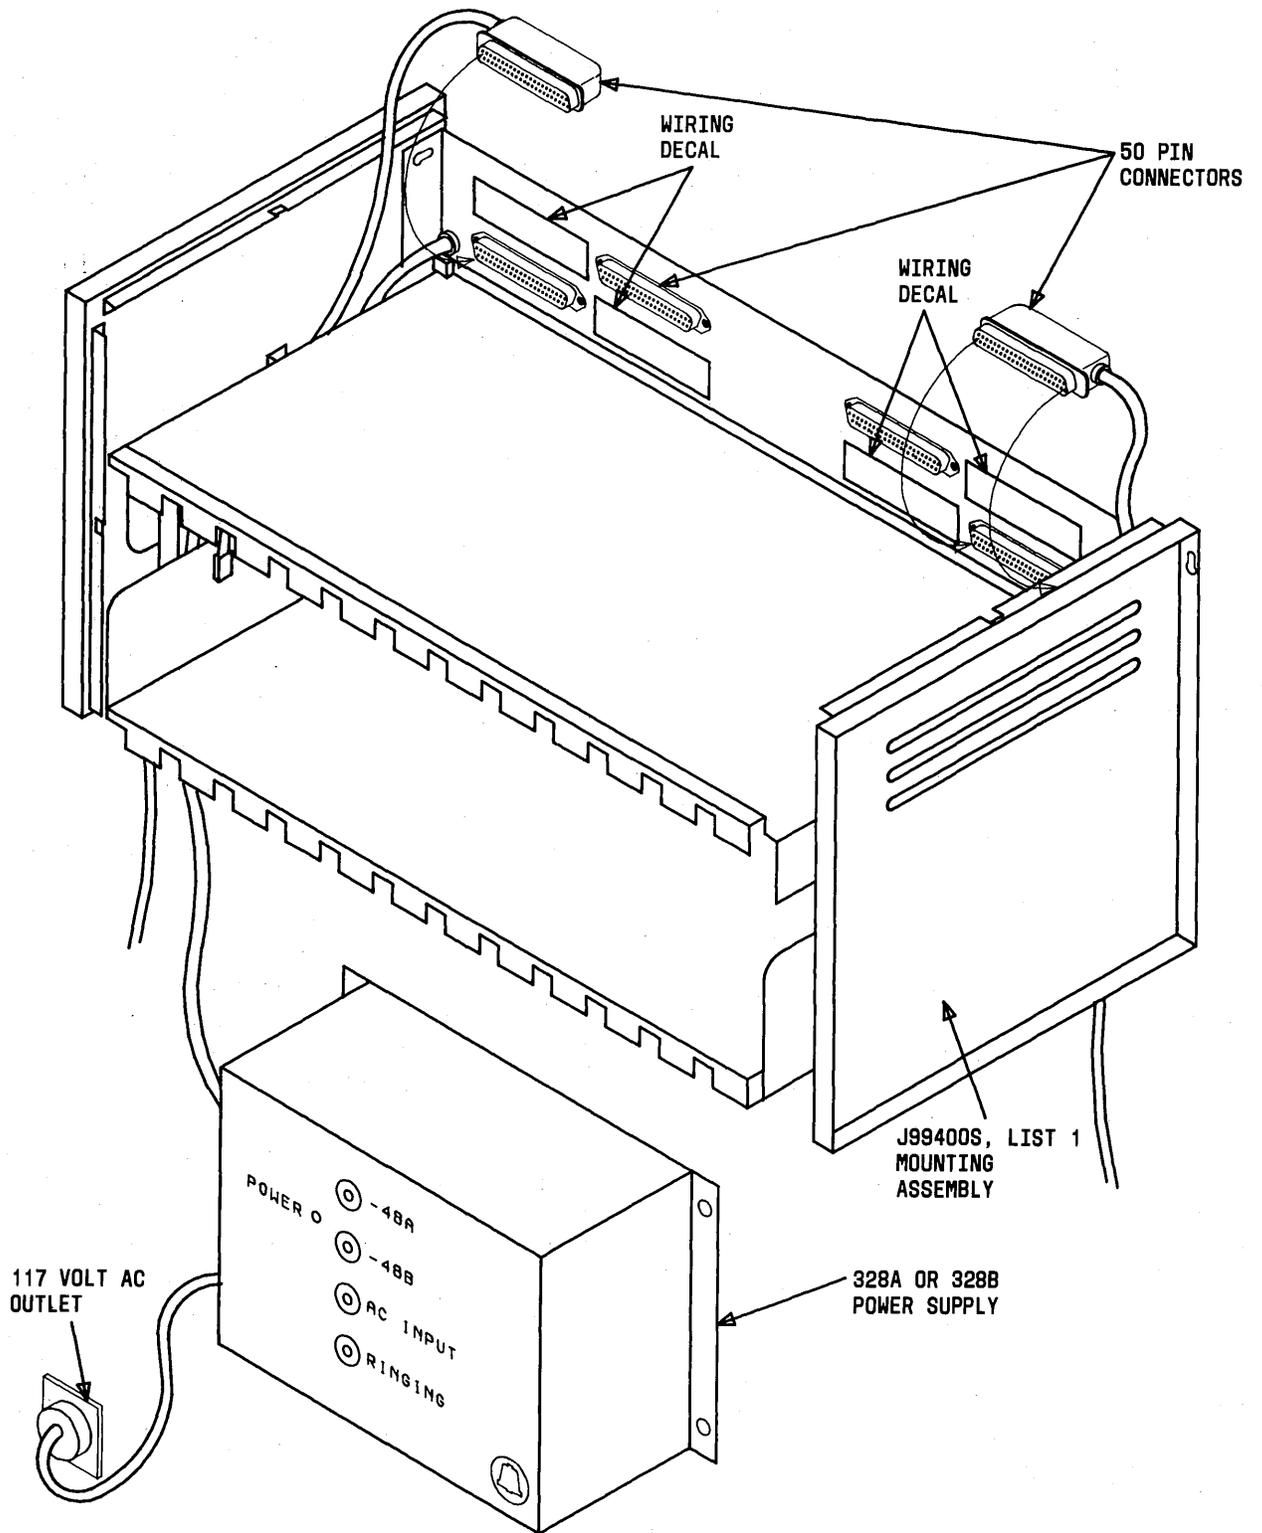

Fig. 3—J99400S Housing Assembly—Single-Module Arrangement for 12 MFT Circuits
**3.01** The J99400S assembly consists of a single-module shelf arrangement which will accommodate up to 12 MFT circuits (transmission units, loop signaling extenders, combined function units, maintenance termination units, or impedance compensators). The J99400S assembly shown in Fig. 3 is available in combinations of the following list numbers:
**3.05** The 328A power supply will accept commercial 117 volt ac input and will supply two -48 volt dc outputs (-48A and -48B). The 328A power supply has a 1.75 ampere circuit breaker on the 117 volt ac input and 1.75 ampere circuit breakers on each of the -48 volt dc outputs. The location of these circuit breakers and the POWER ON indicator is shown in Fig. 3. If a circuit breaker should trip, the center button will extend. The circuit breakers are reset by pushing this center button. If 20-Hz ringing is required, use of the 328B power supply/frequency
**3.07** The 328B power supply/frequency generator will accept commercial 117 volt ac input and will supply two -48 volt dc outputs (-48A and -48B) and a 20-Hz ringing signal. The 328B power supply/frequency generator has a 1.75 ampere circuit breaker on the 117 volt ac input, a 1.75 ampere circuit breaker on each of the -48 volts dc outputs, and a 1.0 ampere circuit breaker on the 20-Hz ringing output. The location of these circuit breakers and the POWER ON indicator is shown in Fig. 3. If a circuit breaker should trip, the center button will extend. The circuit breakers are reset by pushing this center button.
**4.06** Cabling to the J99400S housing is routed up through the bottom of the housing to the 50-pin ribbon type connectors at the upper rear of the housing as shown in Fig. 3. Typically, cabling from the network interface is routed to the A-side connectors (J13 and J14) and connected according to circuit function as indicated on the decal adjacent to the respective connector. The cabling to the central office is typically connected to the B-side connectors (J15 and J16) as indicated on the decal adjacent to the connectors. Additional installation instructions are given in Section 332-610-204.